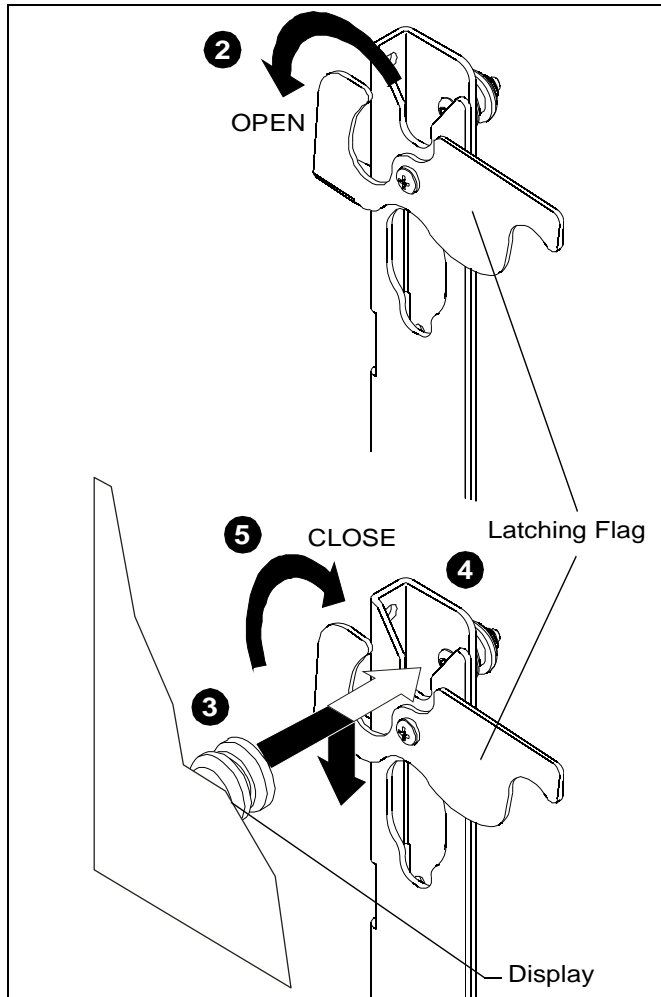

Figure 7
2. Verify latching flag is in the OPEN position. (See Figure 7)
5. Move latching flag to CLOSED position to secure display on accessory. (See Figure 7)